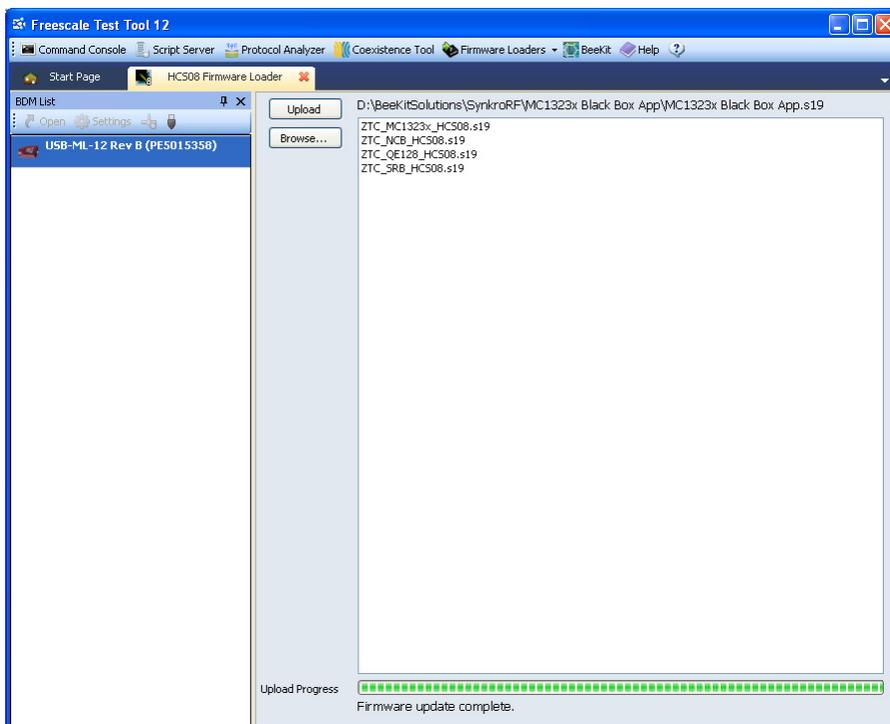

Figure 6-9. HCS08 Firmware Loader Window
1. From the Test Tool tool bar, choose Firmware Loader->HCS08 Firmware Loader. The HCS08 Firmware Loader appears as shown in Figure 6-9.